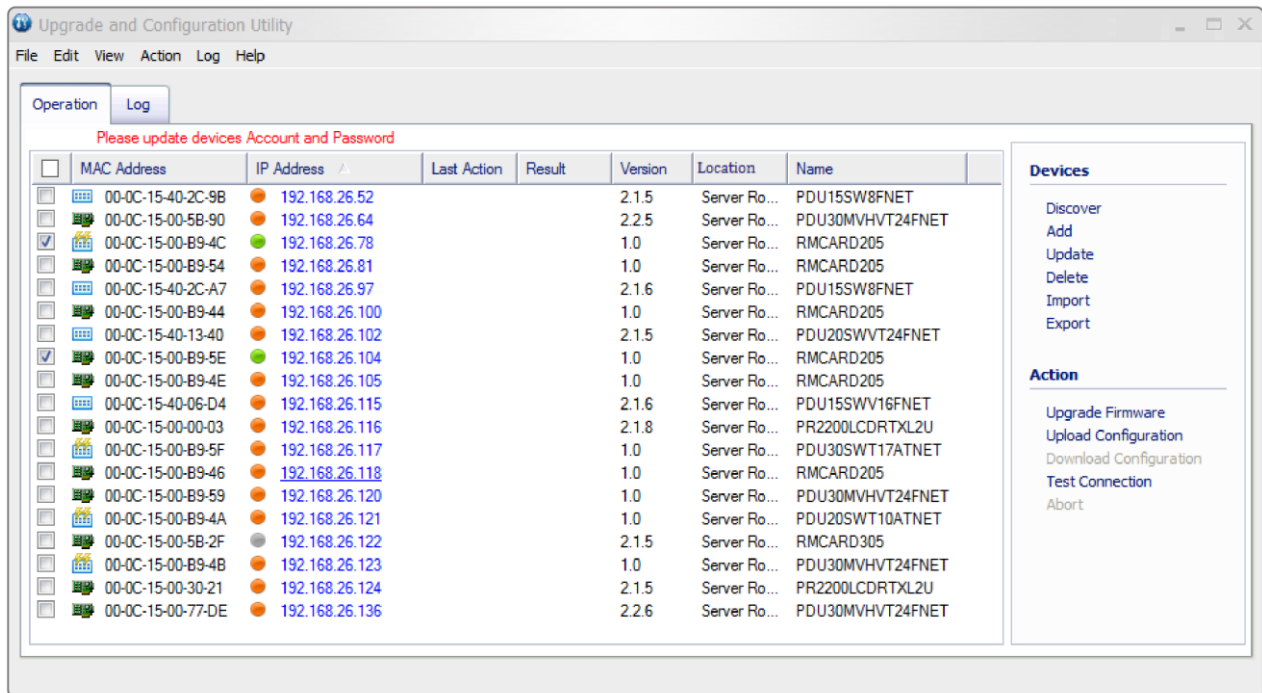

Figure 6. The main window of the “Upgrade and Configuration Utility” program.
3. The main window of the Upgrade and Configuration Utility tool program is shown in Figure 6. The configuration tool will display all CyberPower Remote Management devices present on the local network subnet. The "Discover" button is used to search the local network subnet again.